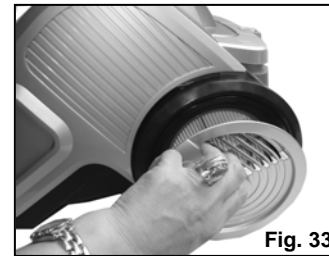

Fig. 33
3. Lift the filter cover off. (Fig. 33)